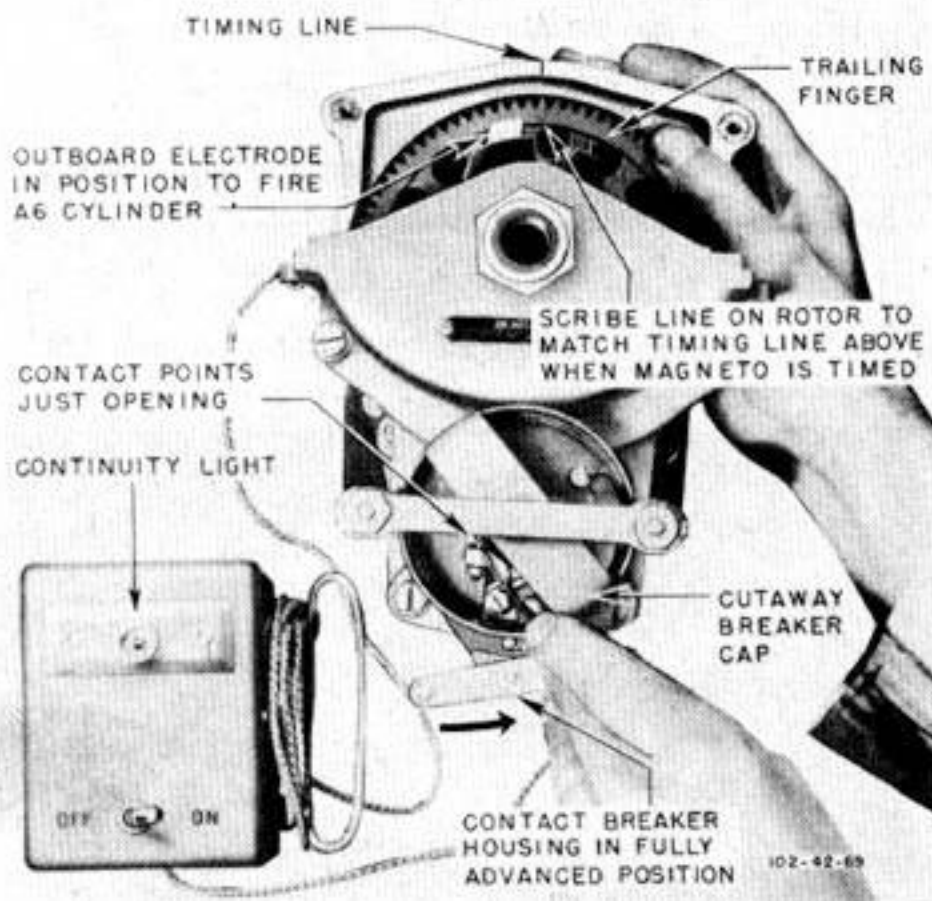

Figure 186—Timing Magneto
a. Install a cutaway breaker cap as shown in figure 186. If this is not available, be sure to hold breaker base firmly in contact against end of magneto housing when setting the opening point of contacts as in paragraph c.
d. Turn rotor until the large outboard distributor electrode is pointing up and in the approximate position to fire the A6 cylinder as shown in figure 186 (A16 wire on "A" magneto wiring harness cover; AE6 wire on "B" magneto wiring harness cover).
g. Hold rotor in this position and scribe a line on the rotor to match with timing line directly above on the magneto housing. (See figure 186.) The magneto is now ready to be installed.